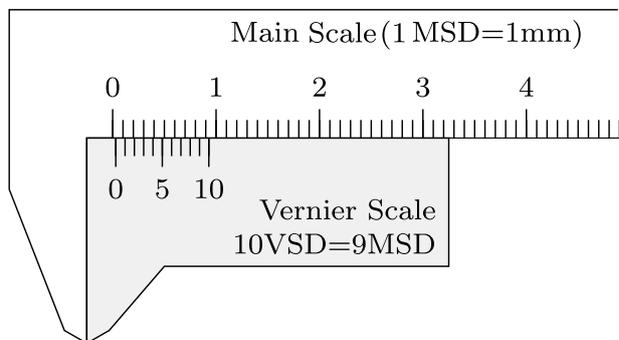

Figure 4: Example 1: Vernier calipers with positive zero error.
**Example 1.** The jaws of the Vernier calipers shown in Figure 4 are in contact with each other. Find the zero error of this Vernier calipers.